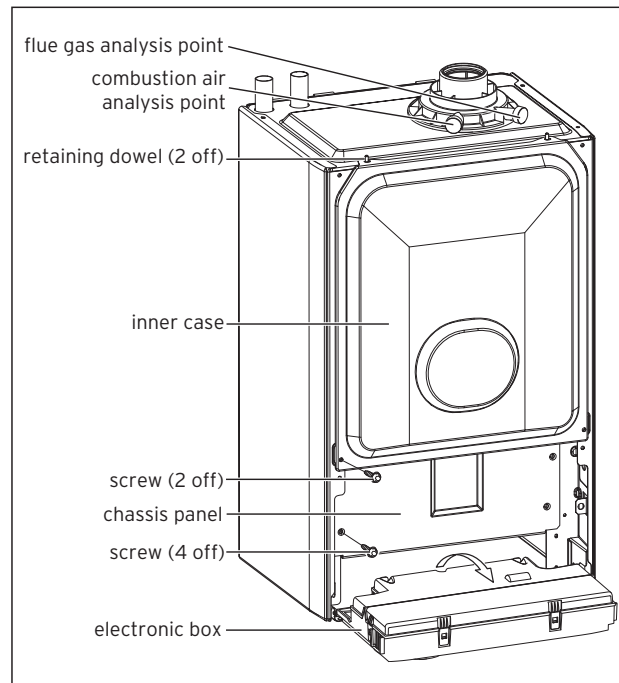

Fig. 8.2 Control panel
- Remove the four screws from the chassis panel, see fig 8.2. Remove the chassis panel by pulling it out at the top from its retaining slots.
- Remove the four screws from the chassis front, see fig 8.2.